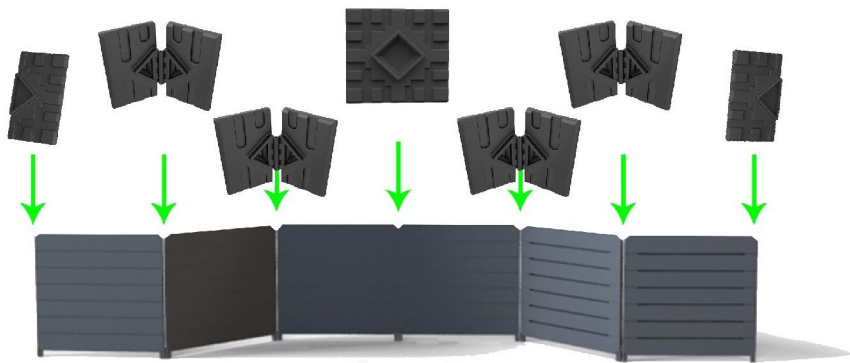

Figure 3
- **Insert the appropriate connectors on the top of the first row. (figure 3)**